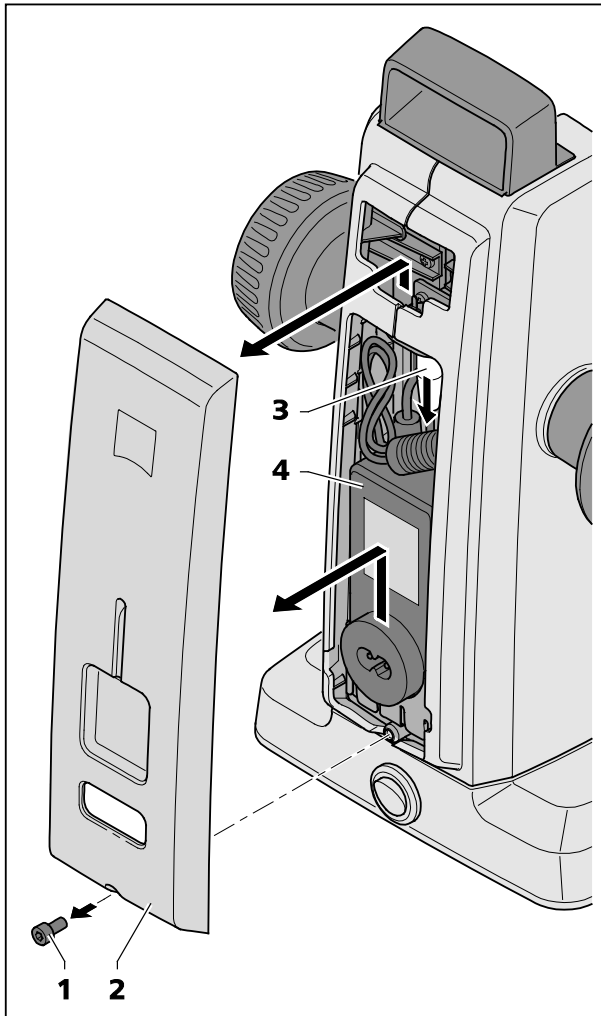

Fig. 21 Changing the power unit
- Use an Allen key to release the screw (Fig. 21/1) on the underside of the housing cover.
- Pull off housing cover (Fig. 21/2) slightly at the bottom, then press it upwards.
- Release the plug (Fig. 21/3) and remove the faulty desktop power unit (Fig. 21/4).